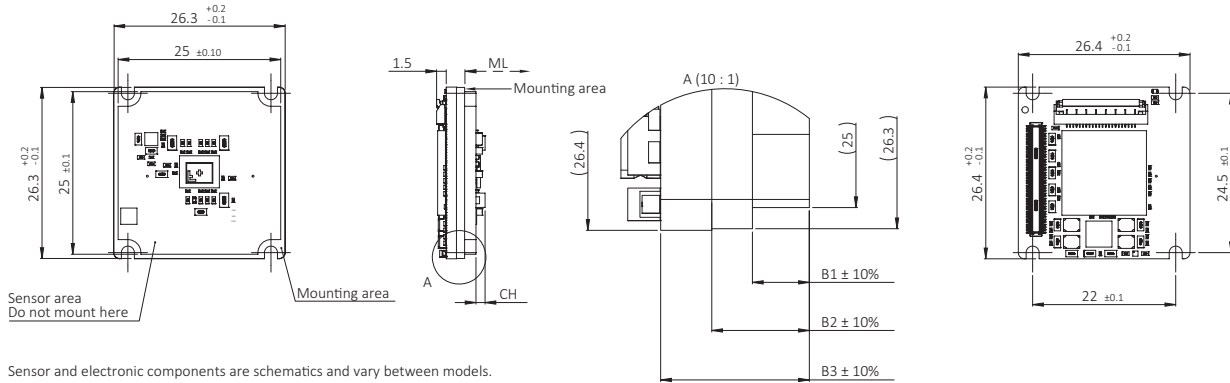

Figure 33: Bare Board dimensions
Dimensions that are common between different models are shown in Figure 33, model specific dimensions are listed in Table 49. **Mechanical length (ML)** defines the mechanical distance from the mounting area to the lens mount front flange, without optical filter. **Components height (CH)** relates to the electronic components with maximum height, sometimes the sensor.